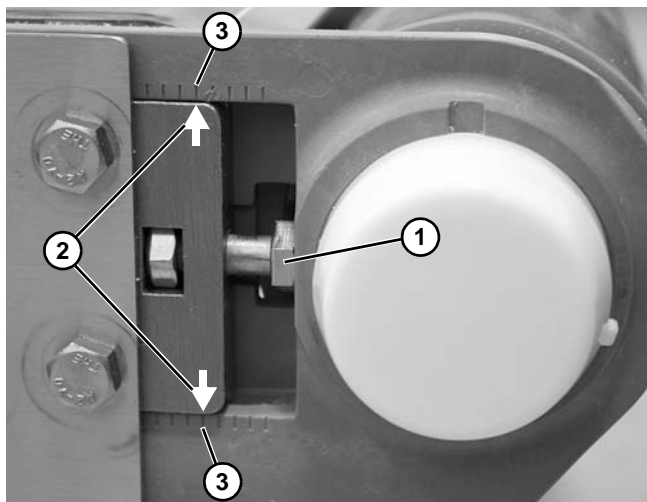

Figure 67
1. Tighten screw (Figure 67, item 1) on each side to take up tension. Align the same arrows (Figure 67, item 2) and marks (Figure 67, item 3) on each side of the conveyor to keep the tail straight.